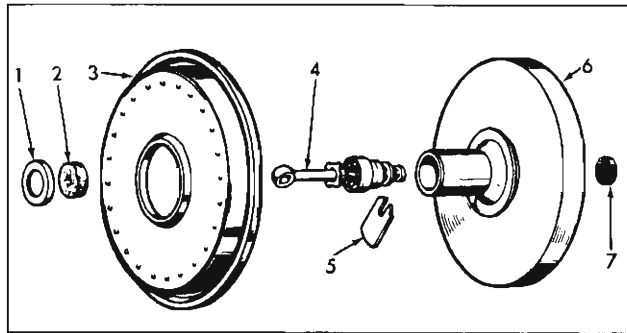

Fig. 20—Power Piston
- Disassemble power piston. (See Figure 20).
4. Assemble the power piston assembly. (See Figure 20.)